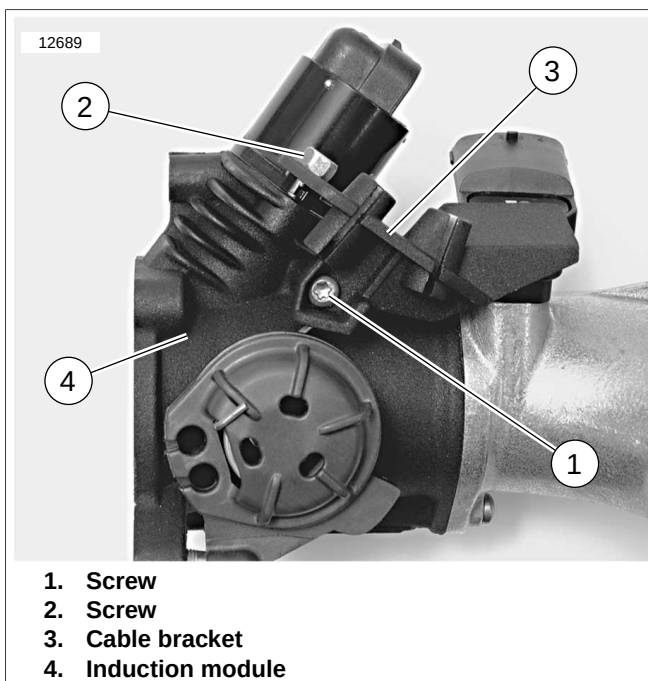

Figure 4-44. Removing/Installing Cable Bracket
2. See Figure 4-44. Remove screws (1, 2) and cable bracket (3) from induction module (4).
4. See Figure 4-44. Install cable bracket (3) onto induction module (4). Secure with screws (1, 2). Install both screws finger-tight. Then tighten both IAC mounting screws to 60 **in-lbs** (6.8 Nm). Tighten side screw (1) to 60 **in-lbs** (6.8 Nm).